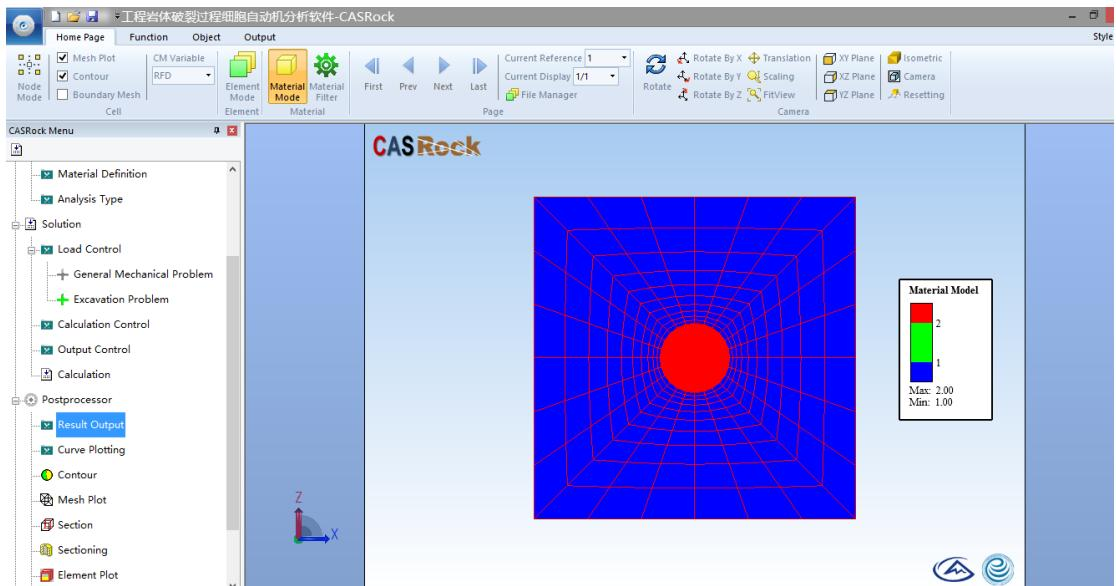

Figure 30 Material Mode
- 1) Material mode: different material categories can be displayed, as shown in Figure 30;